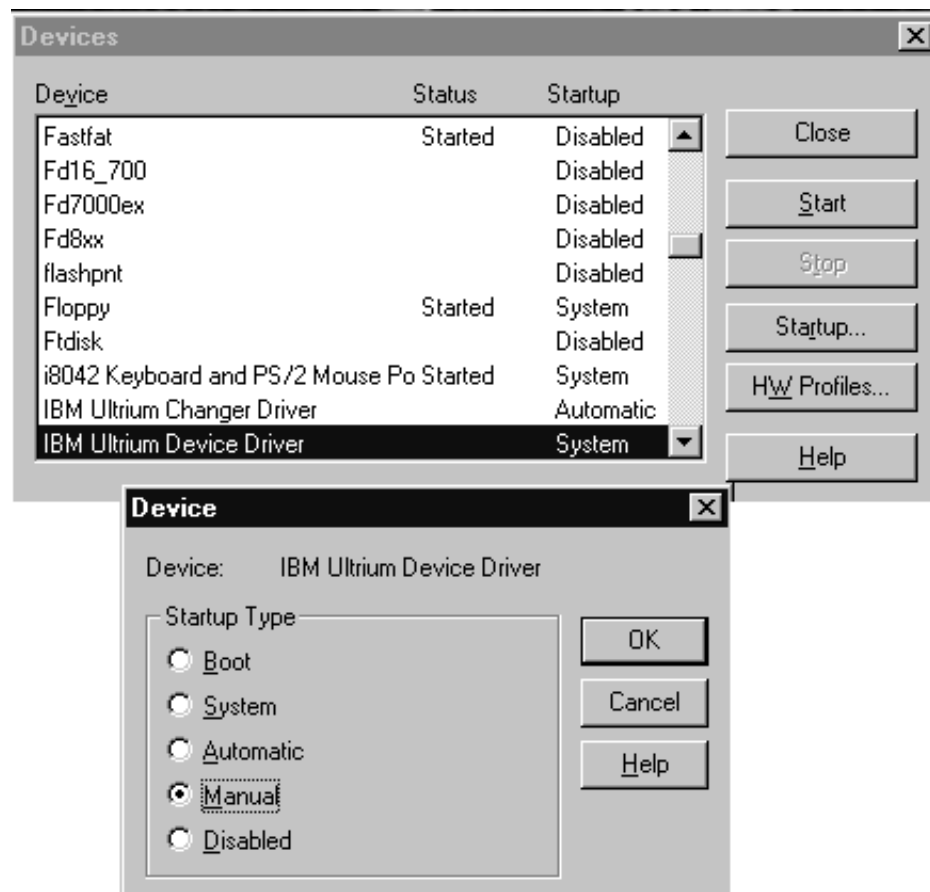

Figure 23. Manual Starting and Stopping Menu
5. Select the driver, click **Startup...**, select **Manual**, then click **OK**. See Figure 23 .